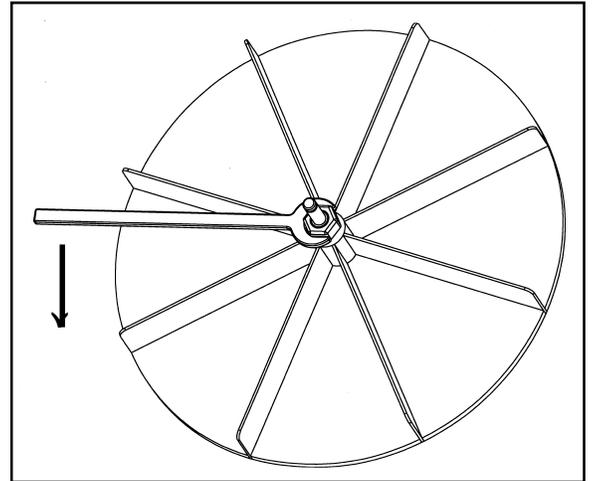

Fig. 3
10. Remove the sprockets from the axle. The tool that looks like a large nut with a bearing inside it will hold the axle so the sprockets can be unscrewed. This tool should be placed onto the end of the axle opposite the sprockets. The writing on the bearing should be away from the wheel. The large nut can then be held with a wrench and the sprockets removed counterclockwise. A large pair of pliers or a pipe wrench may be needed depending on how severely the sprockets are worn. See Fig. 3.